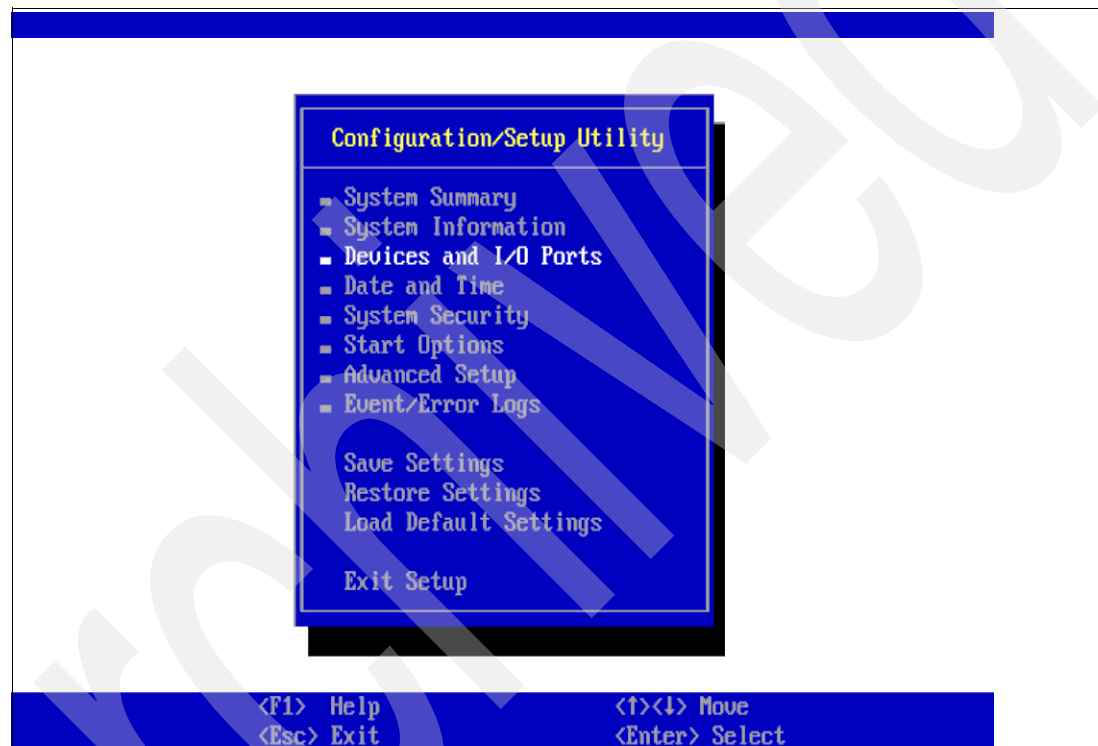

Figure 27-7 System BIOS
1. In our example, the screen shown in Figure 27-7 appears. Select **Devices and I/O ports**.